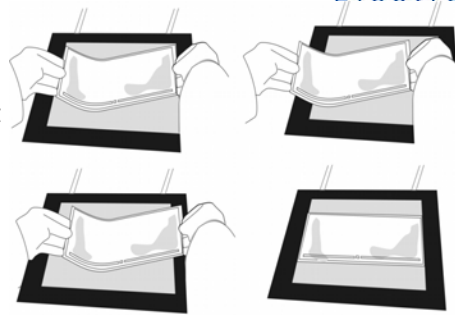

Fig. 4
7. Grip the gel (surface up) at the two lateral edges at the protruding film, bend it like an „U“ and slide the film-backing left and right on the cooling plate to distribute the cool contact fluid evenly (Fig. 4)